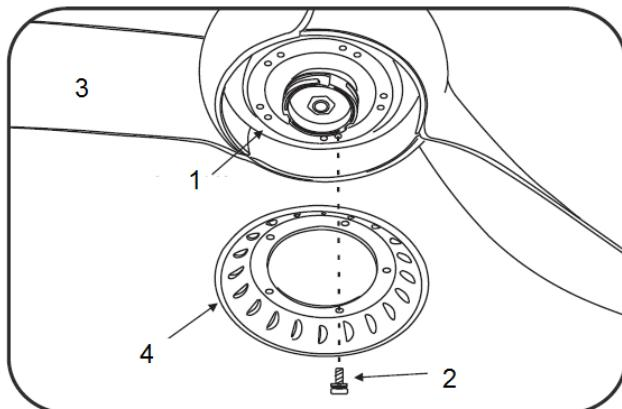

Fig. 8
- Align the holes on the flywheel (4) and the fan motor (1), and secure with the flywheel screws provided. (Fig. 8)